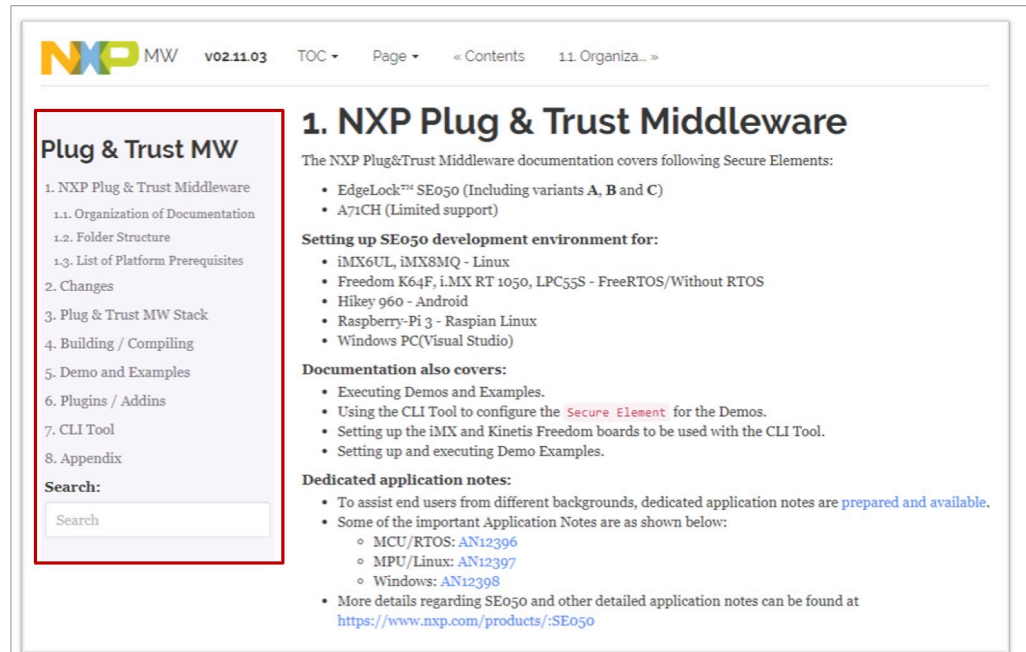

Figure 4. EdgeLock SE05x Plug & Trust MIFARE DESFire EV2 API documentation
- The documentation landing page will appear as shown in Figure 4. Use the left-hand side menu to navigate through the documentation or use the search textbox to find the functions described in Section 3.1.